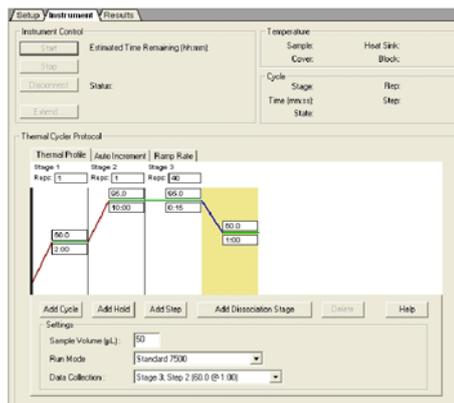

Fig.10
- Click on the **INSTRUMENT** tab (Fig.10).